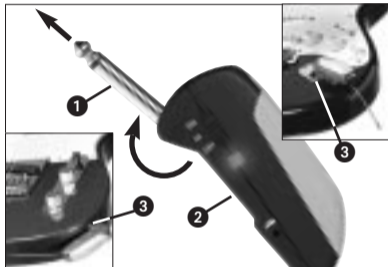

Fig. 3: Fixing the transmitter on the instrument.
4.1 Attaching the Transmitter (refer to fig. 3)